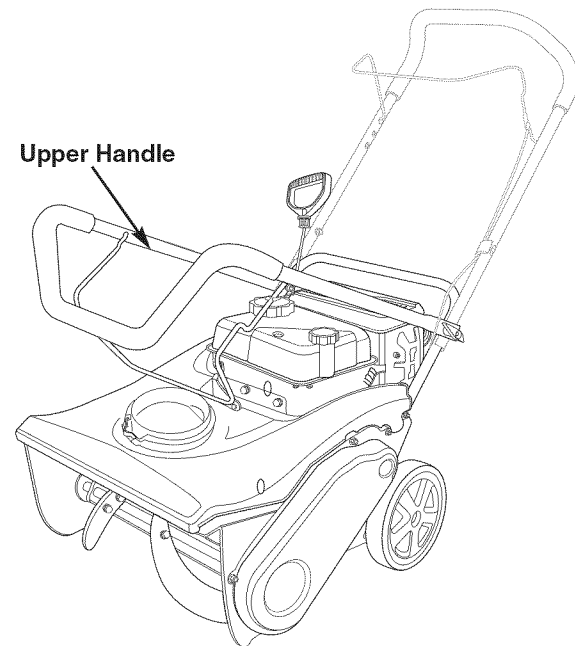

Figure 2-1
1. Pivot the upper handle into the operating position until it clicks. Ensure the cable is not pinched in the process, or wrapped around the lower left engine casing or oil drain plug (see Fig. 2-1 and 2-2).